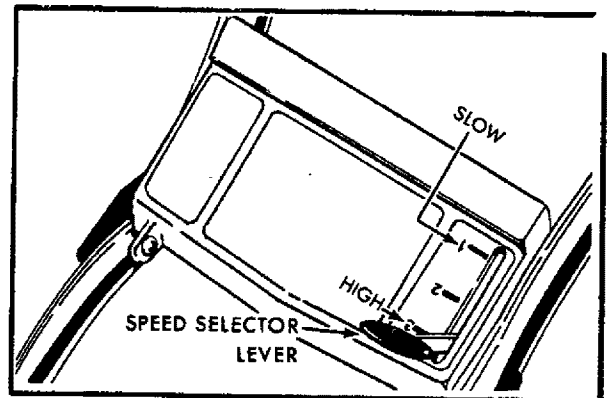

FIG. 17
- (1) (SLOW) speed for heavy cutting or trimming.
- (2) Speed for normal cutting and walking speeds.
- (3) (HIGH) for light cutting and fast walking speed.
- Select the desired setting which suits you best by pushing speed selector lever slightly to the left, then to the speed desired (See Fig. 17).
1. While cranking engine with engine control move speed selector lever to (3) high position (See Fig. 17).